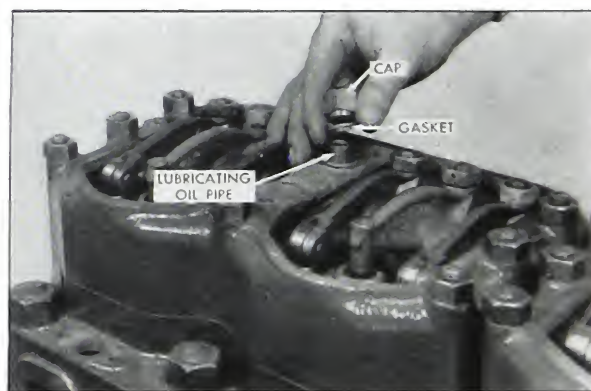

Fig. 12-26. Lubricating oil pipe cap
3. Place a new gasket on each lubricating oil pipe, and install and tighten down the caps. (Fig. 12-26).